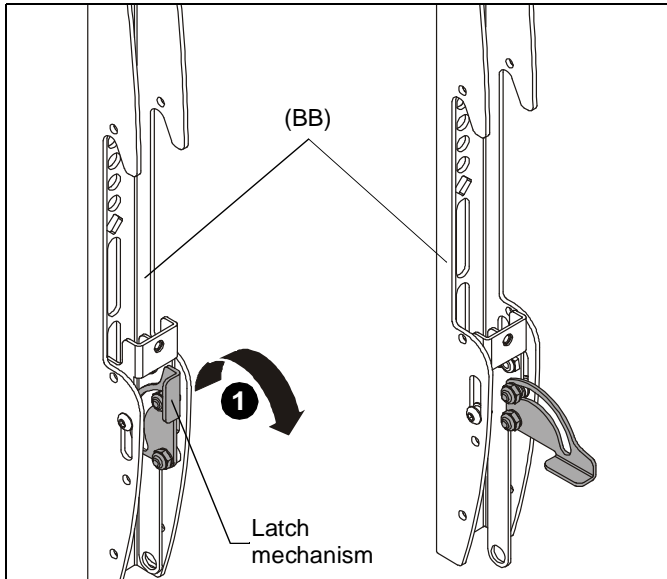

Figure 5
1. Lower the latch mechanism on each interface bracket (BB). (See Figure 5)
1. Ensure that the latch mechanisms on interface brackets (BB) are already lowered. (See Figure 5)